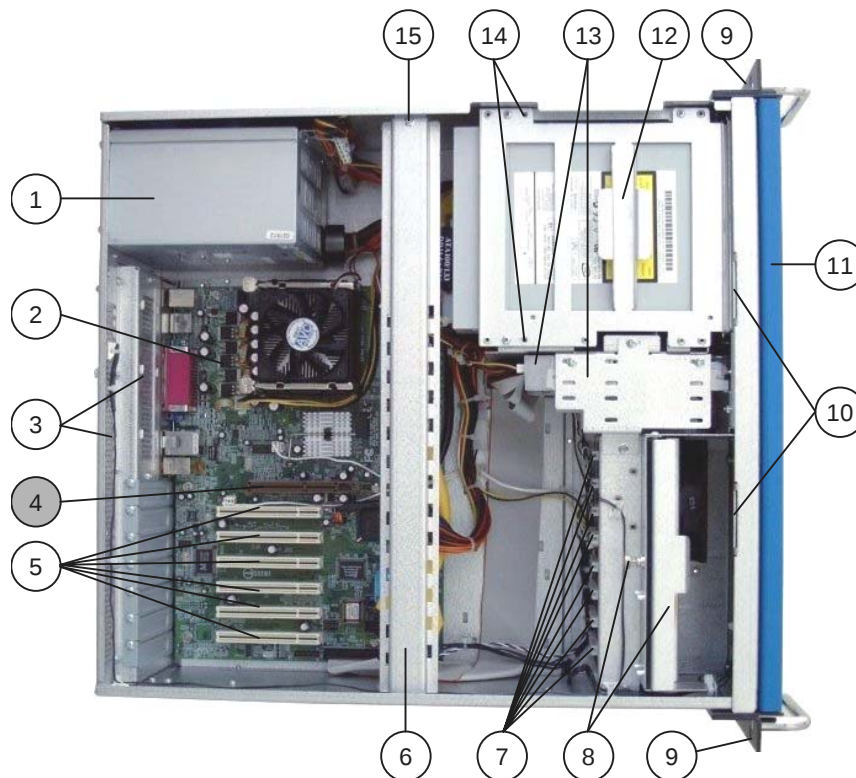

Figure 2: KISS-Platform, opened rackmount version with motherboard
Before putting the system into operation for the first time (before mounting/installation into an industrial cabinet), you have to open the unit as described in "Accessing Internal Components" (page 39) and remove the drive locking screws (fig. 2, 3, 4, 5: pos. 14).
Legend for figures 2 and 3:
Before putting the system into operation for the first time (before mounting/installation into an industrial cabinet), you have to open the unit as described in the "Accessing Internal Components" section and remove the drive locking screws (fig. 2, 3, 4, 5: pos.14).
Before putting the system into operation for the first time (before mounting/installation into an industrial cabinet), you have to open the unit as described in "Accessing Internal Components" (page 39) and remove the drive locking screws (fig. 2, 3, 4, 5: pos.14).